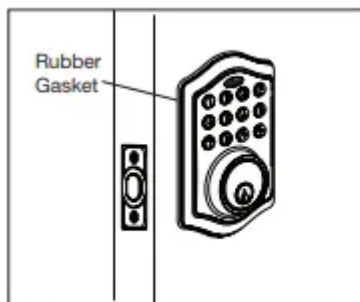

Figure 1a
- Hold latch with numbers facing forward and thumb pressing on the bolt (Figure 1a).
- a. Cut out template printed on page 15 of this Manual (Figure 1a).
- a. Insert Deadbolt Latch Set into door edge hole with the word "UP" and the arrow on the extension plate facing UP. Cross shaped spindle connector will be at the bottom of the Deadbolt Latch Set (Figure 1a).
- b. Check that the Rubber Gasket is properly seated on the Exterior Assembly (Figure 1a).
- a. Gently move the switch to "L" for Left Handed Door (Figure 1a).